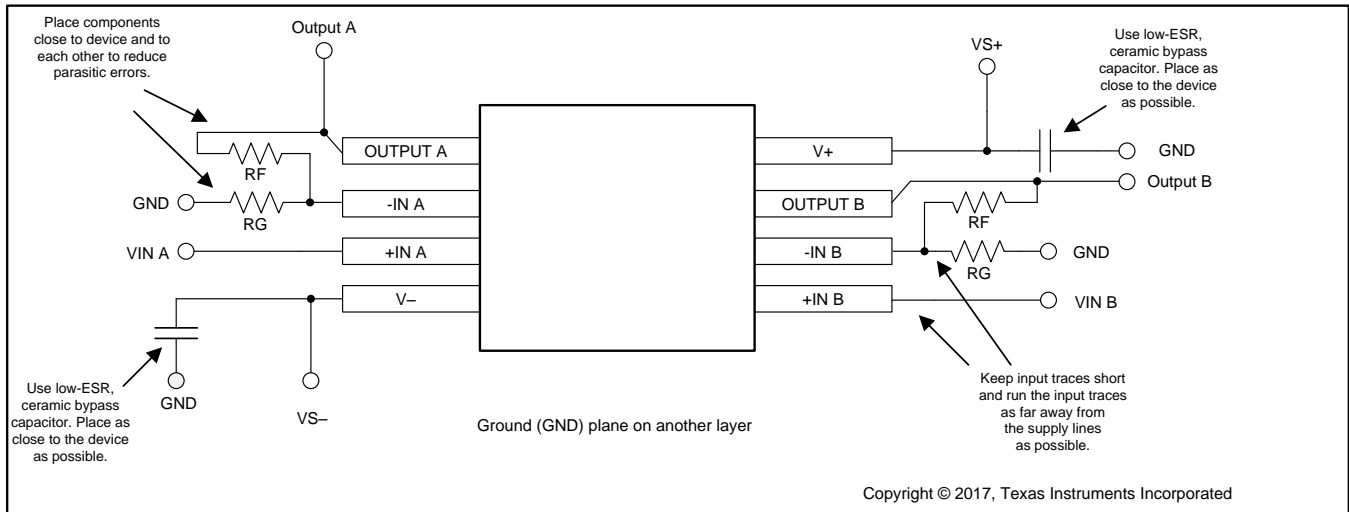

图 47. Operational Amplifier Board Layout for Noninverting Configuration
- Place the external components as close to the device as possible. As illustrated in 图 47, keeping  $R_F$  and  $R_G$  close to the inverting input minimizes parasitic capacitance.